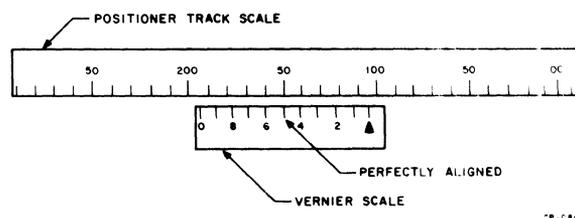

Figure 5-11 How to Read a Vernier
5.4.1.1 RK05K-AC Alignment Cartridge – This Digital Equipment Corporation alignment cartridge is preferred for RK05 and RK05-J alignment procedures. It provides three tracks (principal track 105, plus spare tracks 85 and 125) of constant frequency data and alternate sectors recorded at displacements of +0.0025 and -0.0025 inches, respectively, from the ideal track locations. Figure 5-11 shows how to read the vernier when locating the desired track.
In Figure 5-11, the nearest positioner track scale marking to the right of the triangle is 100; the vernier scale value that aligns perfectly with a positioner track scale marking is 5. Therefore, the vernier is set to Track 105 ($100 + 5$).